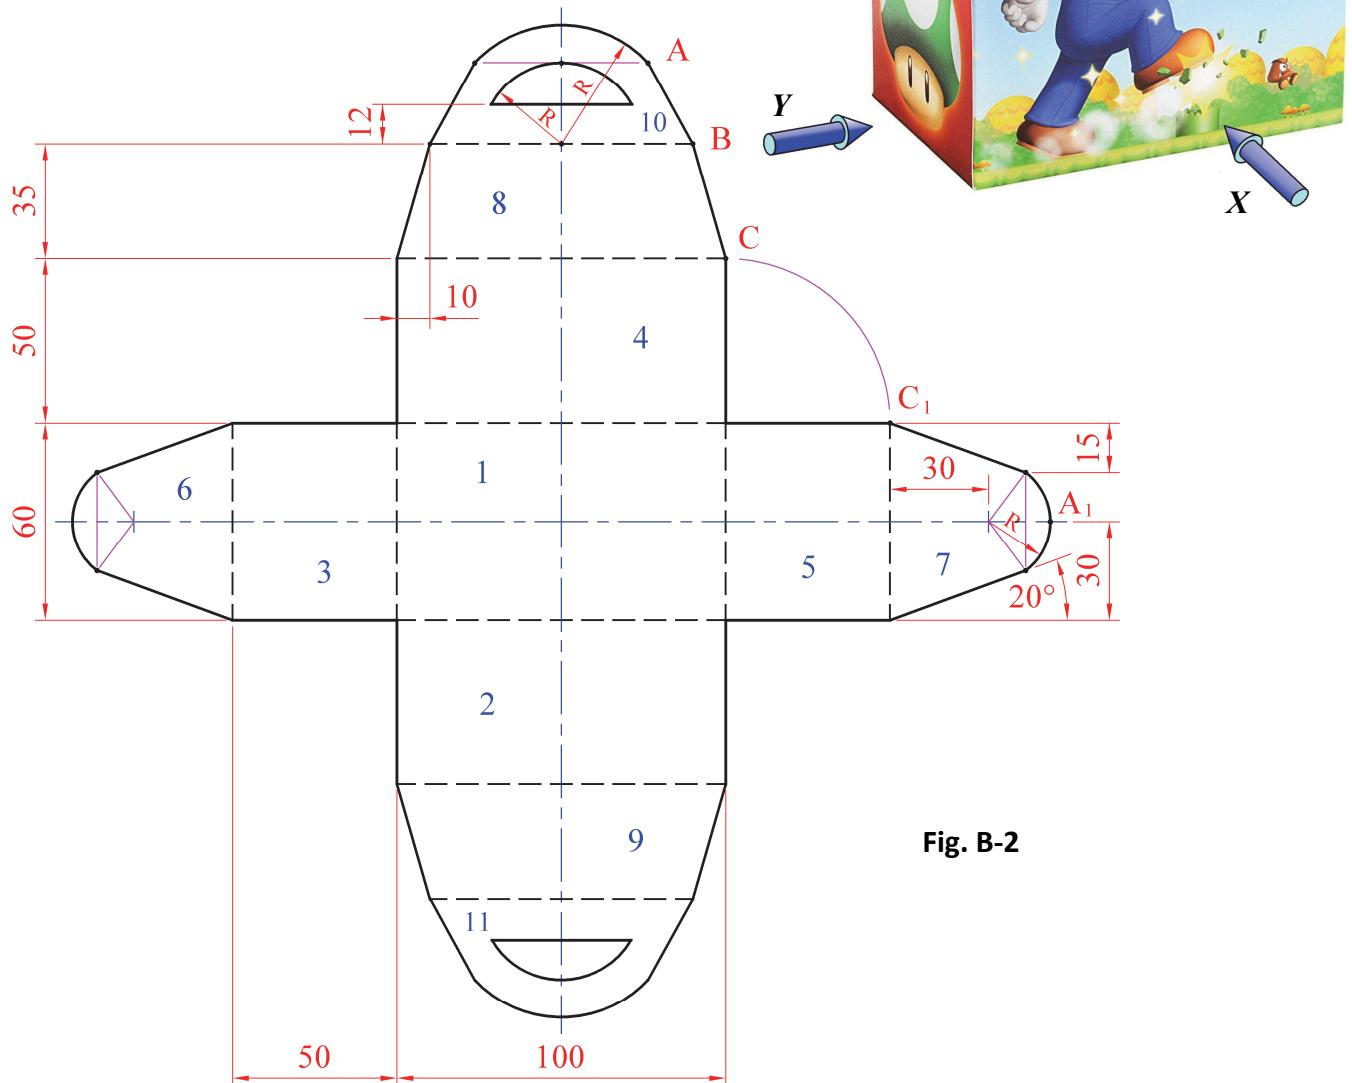

Fig. B-2
- B-2.** The image shows a cardboard carry-box for a child's novelty toy. A complete surface development of a similar box (without 'glueing tabs') is given in Fig. B-2 below. When the box is assembled, point C coincides with point C_1 and point A coincides with point A_1 . AB is a straight line.